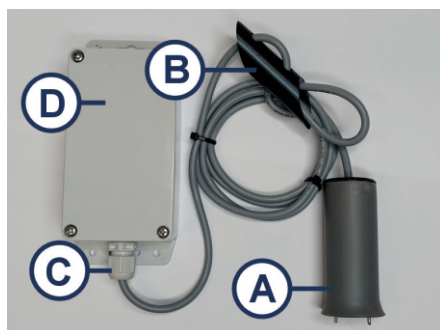

FIGURE 2
B. A receiver unit installed at any suitable location in the building giving audible and visible alarm. (Figure 2 and 3)
The package includes a transmitter unit with a level sensor (Fig 1) and a receiver unit (Fig 2) with DC adapter. Each receiver unit only reacts on alarms from its own transmitter unit.